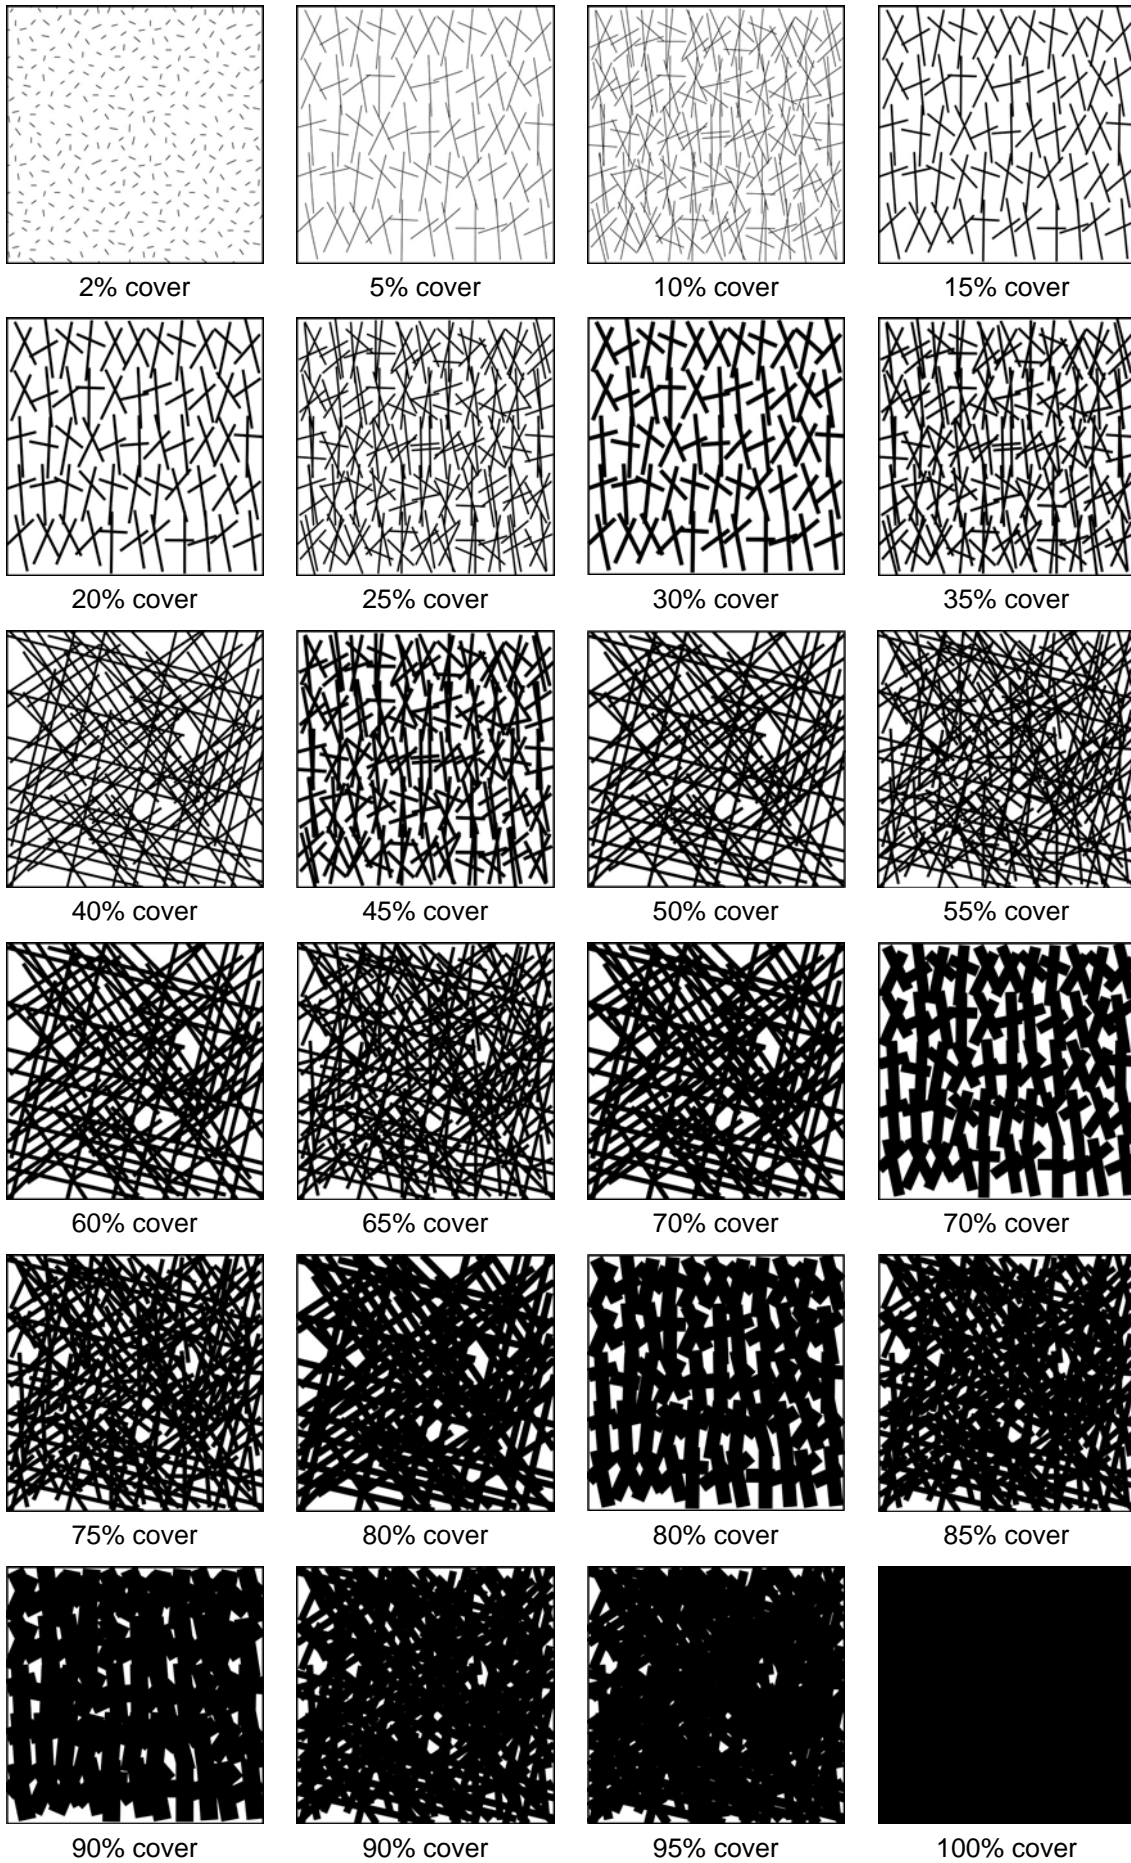

Figure 1 – Visual cover estimation template
- visual cover estimation template (Figure 1, otherwise refer to McDonald et al., 1990)